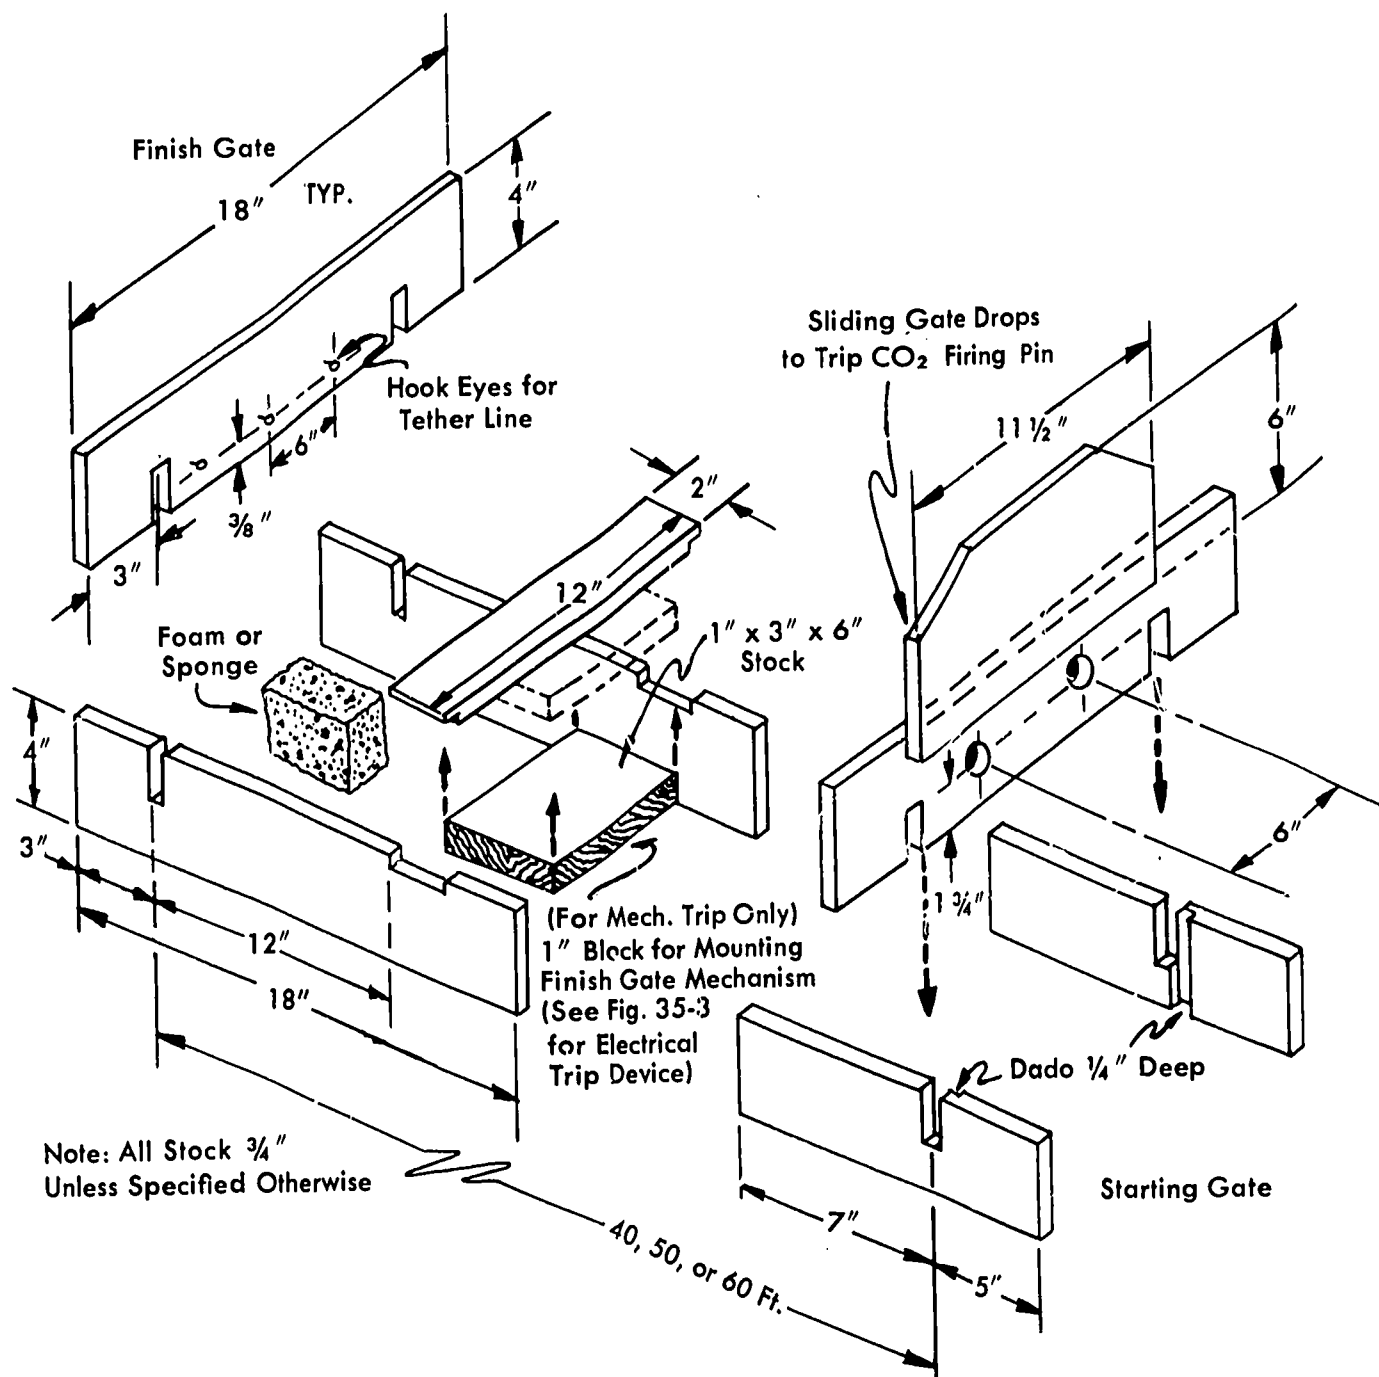

Fig. 35-1. Start-Finish Gate Assembly
1. Have start/finish gates set up and both tether lines strung. Tension on tether lines can be achieved by moving start/finish gates. See Figs. 35-1 to 35-11 and Figs. 35-13 to 35-17.